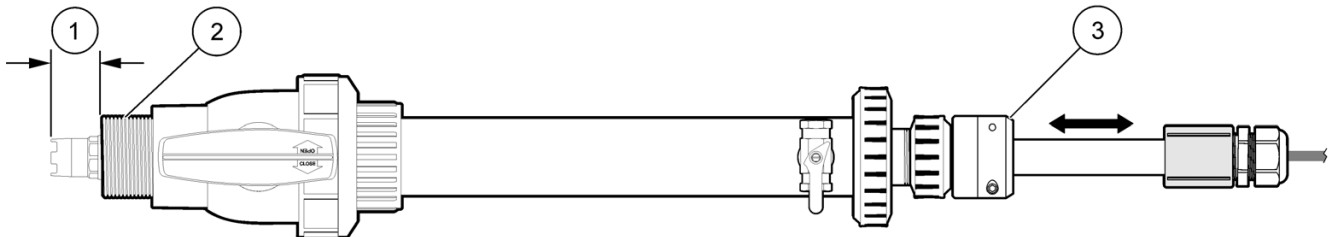

Figure 4 Sensor Insertion Depth
The sensor insertion depth is the distance that the sensor salt bridge extends beyond the threaded nipple of the ball valve assembly (see Figure 4). The maximum insertion depth is 114 mm (4.5 inches). If this insertion depth is acceptable for the application, disregard the following procedure and mount the ball valve assembly in the non-pressurized process pipe/vessel. To reduce the insertion depth, complete the following procedure:
1. Loosen the screws on the retaining clamp and unscrew the retaining cap. See Figure 4.